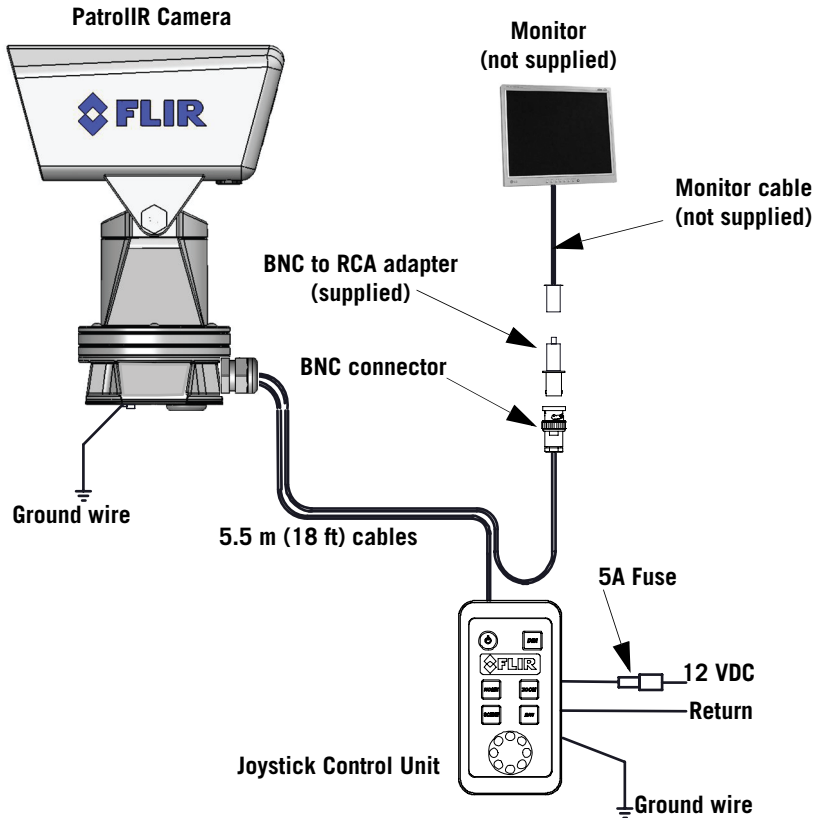

Figure 3-1: Pan and Tilt PatrolIR PTZ
- Step 5 Route the control/power cable to the Joystick Control Unit and the video cable to the monitor. See Figure 3-1 for a schematic representation of the cabling connections.